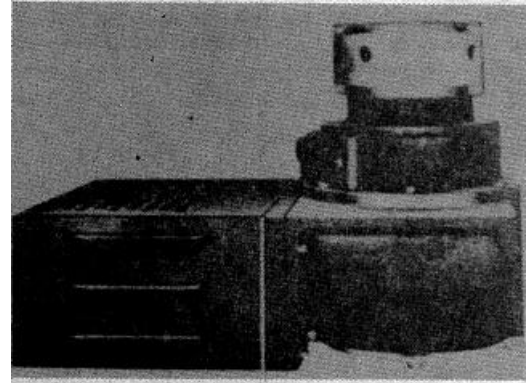
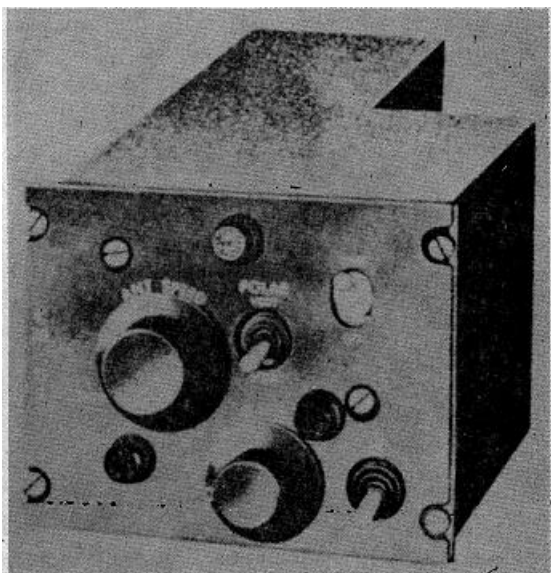

Figure 1-5. Antenna Drive TG-S8 /APA69
Figure 1-4. Direction Finder Control C-S27/APA-69
1-11. DIRECTION FINDER CONTROL C-527/APA-59. (See figure 1-4.) The director finder control is located at the operating position and provides means for (1) varying the rotating speed of the antenna, (2) switching oppositely polarized signals from the two lower frequency antenna units, (3) varying the gain of the video amplifier and (4) turning the primary power on and off. In installations using the Azimuth Indicator IP-36/APA-69 the "PAN-DF" switch is not used.
1-12. ANTENNA DRIVE TG-8/APA-69. (See figure 1-5.) The antenna drive comprises a d-c motor and gear train, a video resolver and a polarization on-off switch. This unit supports and rotates the antenna or reflector and, by means of the resolver, supplies sine and cosine voltages to the azimuth indicator. Polarity reversing and automatic speed-changing devices are included in this assembly.
1-12A. ANTENNA DRIVE TG-8A/APA-69. (See figure 1-5.) This antenna drive is the same as the TG-8/APA-69 except the antenna rotation speed is controlled only by the "ANT SPEED" knob (figure 1-4) on